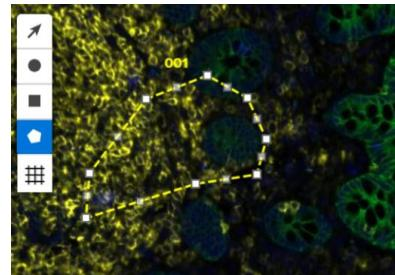

Figure 26: Scan Workspace
1. Select the **polygon button** from the Scan Workspace (see Figure 26).